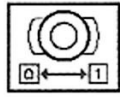
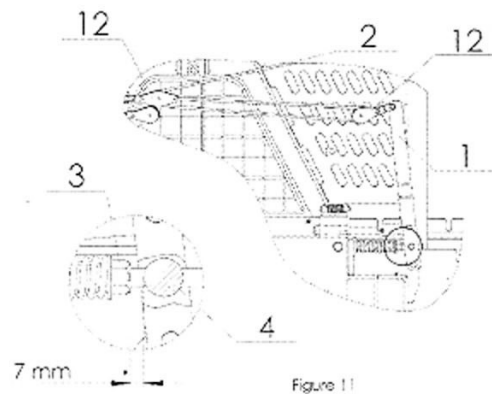

Figure 10
Figure 11
Once the winch is correctly connected, we start to unwind the wire rope. We do this so that we pull the wooden handle on the red rope (pos. 2, figure 11) and in this way move handle 1 in direction OFF (figure 10). Brake is released and the wire rope can be unwound. In case that we just installed the wire rope on the drum or we observe that it is not properly wound, we unwind the entire length of the wire rope and wind it strong, as given in the start of this chapter.
Any intervention in the engagement mechanism, which would stop synchronous operation of the clutch and the brake, is prohibited. It is also prohibited to pull the red rope of the brake (pos. 2, figure 11) during towing.
Brake setting is done by a nut (pos. 3, figure 11). Brake handle (pos. 1) is in OFF position (figure 10). Firstly, use a fork wrench to set the nut (pos. 3). Distance between the roller (pos. 4) on the handle and the nut should be approximately 1/4". If the brake force is not sufficient, repeat the procedure and tighten the nut (pos. 3) again to the right. If the brake is set to excessive force, the unwinding of the rope is made more difficult. Therefore, the nut must be loosened somewhat to the left.